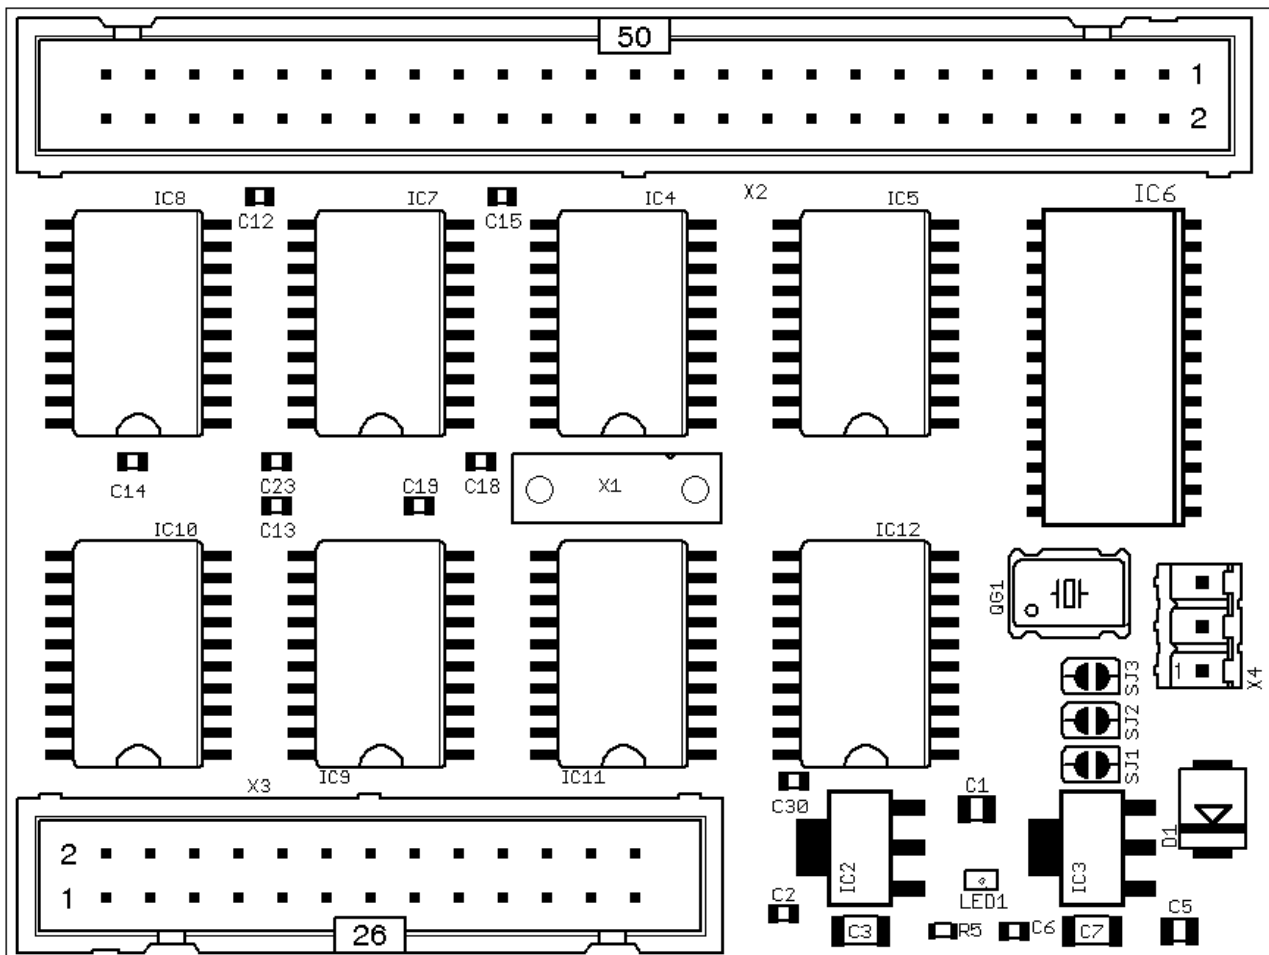

Figure 1: Top View of the ACSI-SCSI Adapter
2. There is a dedicated power supply header X4 with the following pin description: pins 1 and 3 = +5V, Pin 2 = 0V. See also Figure 1.
On the top side of the printed circuit board there are three configuration jumpers SJ1 through SJ3 (see Figure 1). Closing one ore more jumpers will result in different initiator IDs as described in the following table. The default setting for the jumpers ar all open which means ID7.